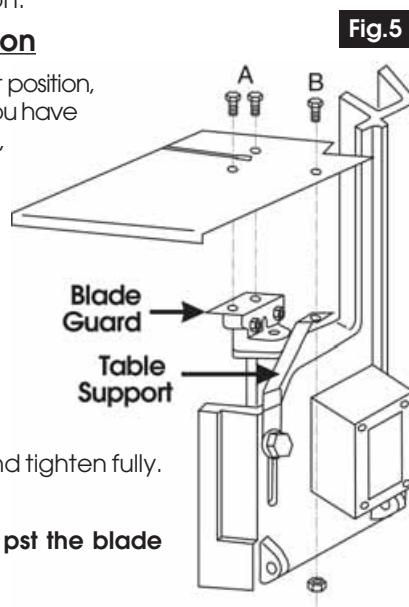

Fig.5
Fitting the table (see Fig 5):
3. Place the table on top of the guide assembly and insert bolts A and B Fig.5, and tighten fully.